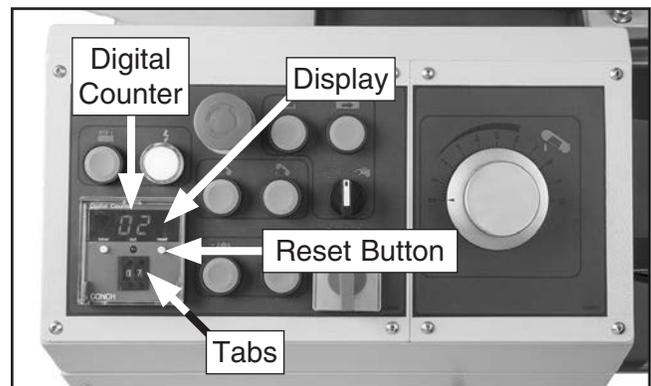

Figure 49. Digital counter set to 7 with 2 cuts completed.
11. Use tabs on digital counter (see **Figure 49**) to set the number of cuts to be made.
12. Push blade start button  to start cutting operation. During cutting operation, feed roller will automatically advance workpiece until it reaches proximity sensor, and digital counter will display number of cuts completed (see **Figure 49**). Cutoff pieces will slide down chute after each cut is made.